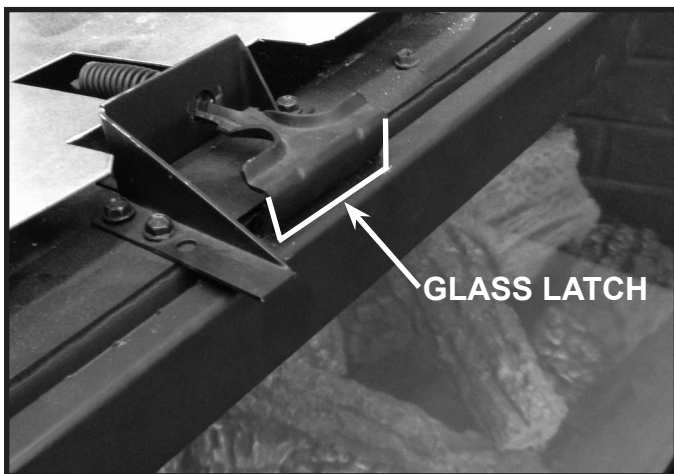
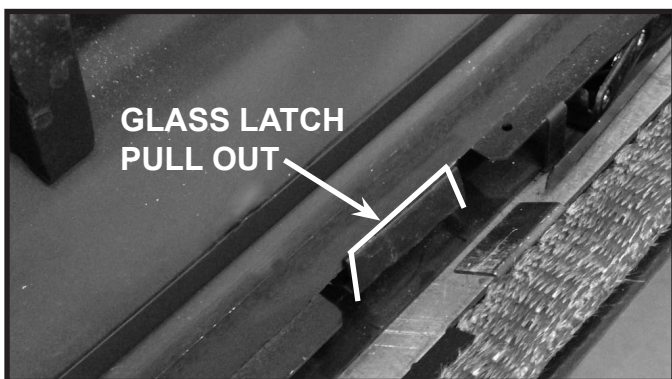

Figure 11.1 Top Glass Latch
Figure 11.2 Bottom Glass Latch
- The glass assembly fastens to the fireplace in four places. The fastening mechanisms are spring-loaded glass latches. An example of the top glass latch is shown in Figure 11.1 and an example of the bottom glass latch is shown in Figure 11.2.